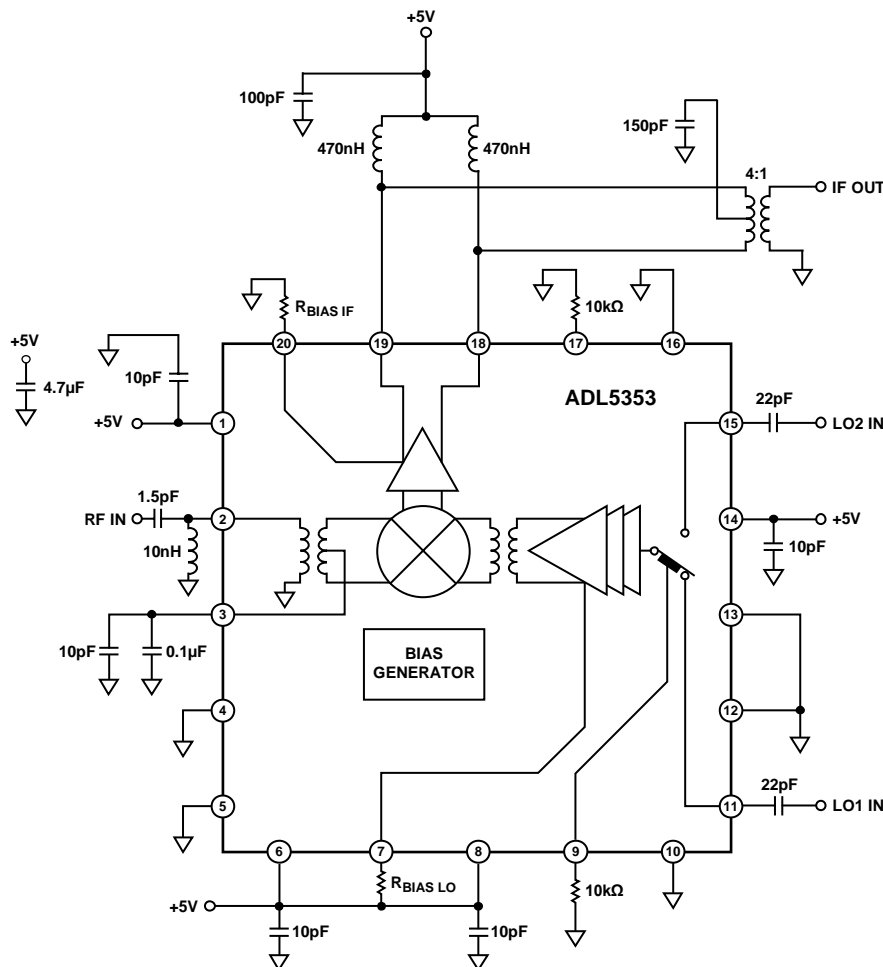

Figure 50. Typical Application Circuit
The ADL5353 mixer is designed to downconvert radio frequencies (RF) primarily between 2200 MHz and 2700 MHz to lower intermediate frequencies (IF) between 30 MHz and 450 MHz. Figure 50 depicts the basic connections of the mixer. To prevent nonzero dc voltages from damaging the RF balun or LO input circuit, ac couple the RF and LO input ports. The RFIN matching network consists of a series 1.5 pF capacitor and a shunt 10 nH inductor to provide the optimized RF input return loss for the desired frequency band IF Port.
need for a transformer. This results in a voltage conversion gain that is approximately 6 dB higher than the power conversion gain, as shown in Table 3. When a 50  $\Omega$  output impedance is needed, use a 4:1 impedance transformer, as shown in Figure 50.